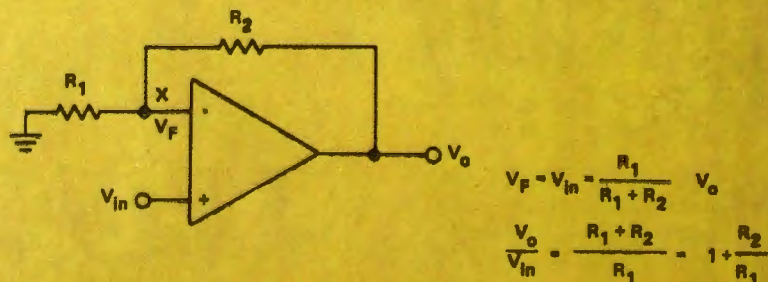

Fig. 3. Schematic of an Op-Amp used as a Non-Inverting Amplifier.
The schematic of an OP-AMP used as a **NON-INVERTING AMPLIFIER** and the equations describing its operation are shown in Fig. 3. It is very helpful in understanding OP-AMP circuitry to regard the non-inverting (+) input as a reference which will determine the level that both (+ and -) inputs assume. (For now, take it on faith—the reason for this condition will be apparent from the discussion of what goes on within this "little black box"). Under this assumption, the signal voltage at the inverting input (VF) is equal to the input ( $V_{in}$ ) and is related to the output voltage by the resistive divider network as shown. Manipulation of the equations yields the result that the gain of the stage ( $V_o$ ) =  $1 + \frac{R_2}{R_1}$ . In addition to the fact that the output signal is in phase with the input signal, it should be noted that the input impedance of the amplifier is extremely high as it is determined by the characteristics of the op-amp itself.